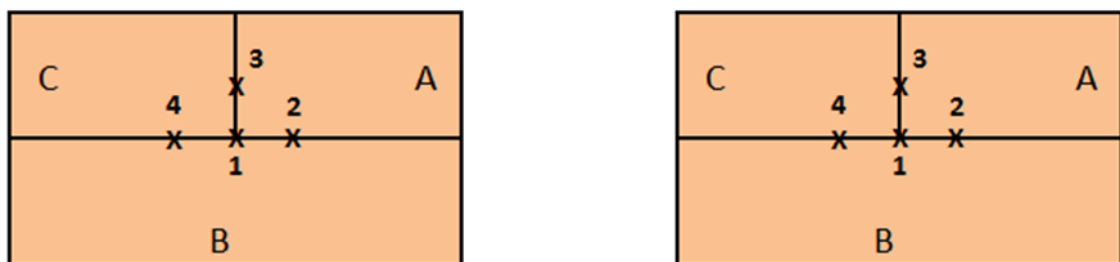

Figure 4: Test positions on the assembled boards - Sample 1 (left) and 2 (right) side by side
6. Mark the test points at 15 mm on the three sides of the central longitudinal marking. See Figure 4.